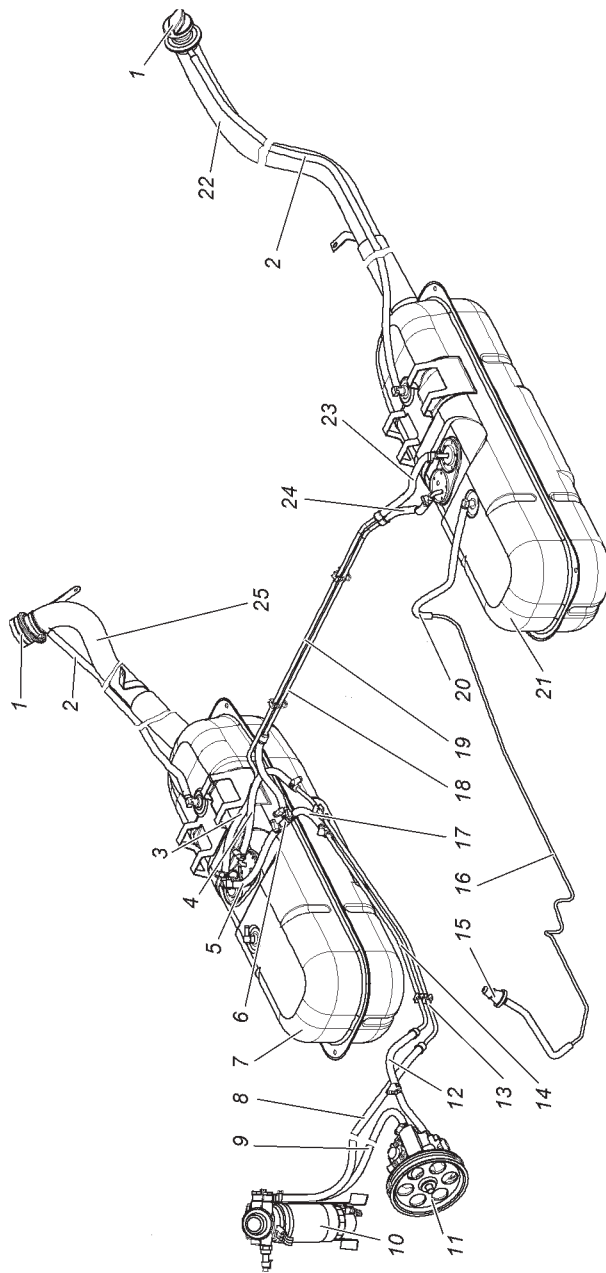

Fig. 9.16. Engine feed system:
Feed system (Fig. 9.16)
1. Make sure the fuel tanks plugs 1(Fig. 9.16) are tightened securely. The fuel tank filler plugs are blind and ensure tight sealing;
Jet pump 6 (Fig. 9.16). Regularly check pump and connections tightness. If fuel does not go from the left-side tank into the right-side one, disassemble the pump (unscrew the injector), purge it and blow with air.
High pressure fuel pump (HPFP) 11 (Fig. 9.16).